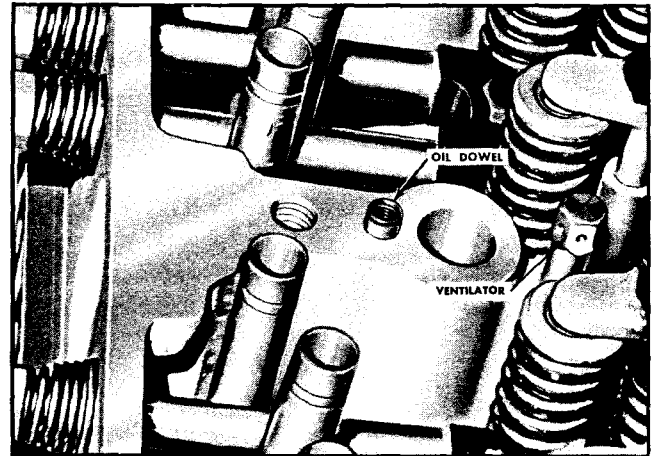

Fig. 4-28. Oil transfer dowel
7. Check to see that center oil supply dowel and ventilator plug are in position on cylinder head. Ventilator plug holes must be open. Fig. 4-28. If engine is turbocharged or supercharged, plug breather hole with  $\frac{1}{8}$  N. P. T. plug.